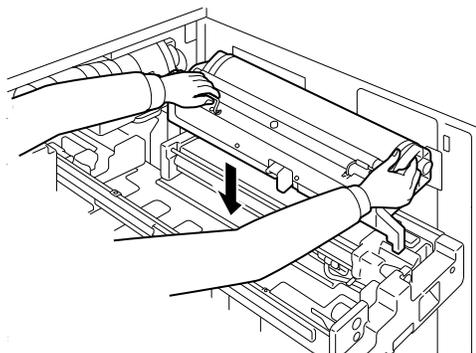

Figure G-2
2. Re-install the PC cartridge in the EP drawer as shown in Figure G-2.